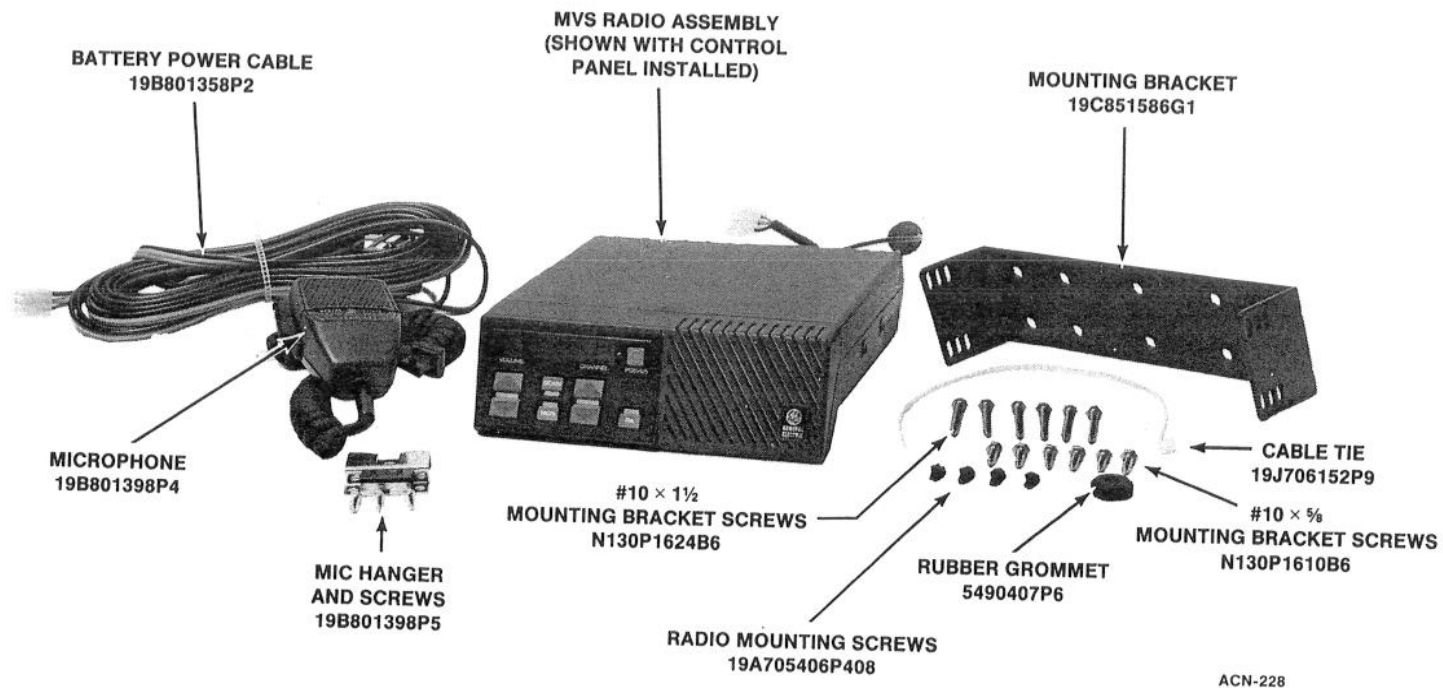

FIGURE 1 - MVS RADIO COMPONENTS AND MOUNTING HARDWARE
2. Insert the panel into the Front Cap Assembly, and install the two M3.5-0.6x8 screws supplied. See Figure 1.